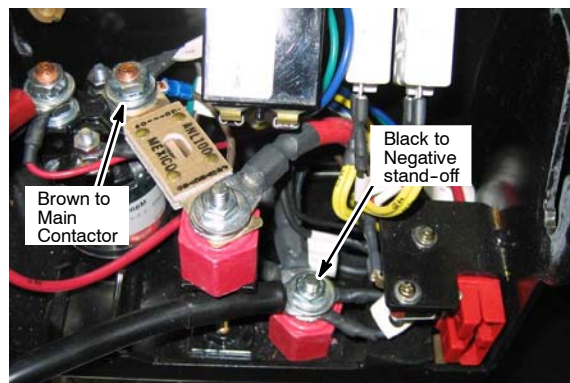

Fig. 9
9. Connect the brown wire to the main contactor and the black wire to the negative stand-off (Figure 9).